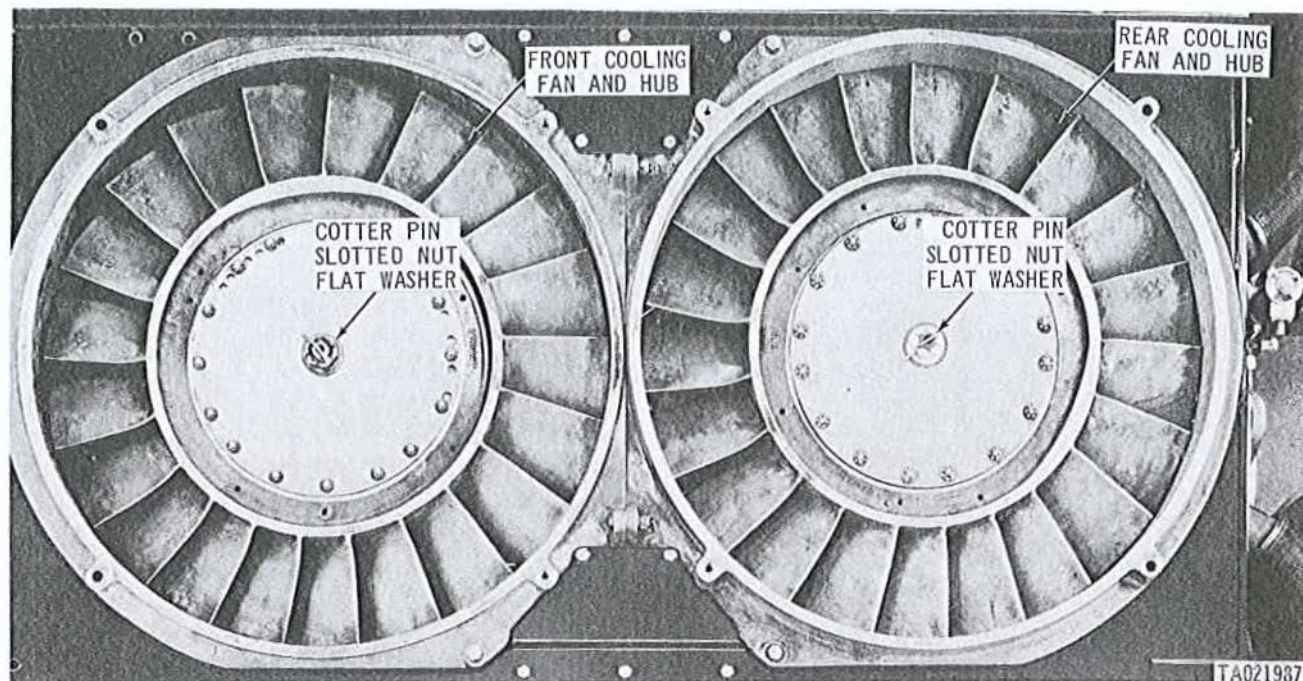

Figure 3-7. Removing or installing cooling fans.
b. Remove cotter pin, slotted nut and flat washer (fig. 3-7) and discard cotter pin. Remove front cooling fan and hub assembly from vertical drive shaft. Remove rear cooling fan and hub assembly in the same manner.